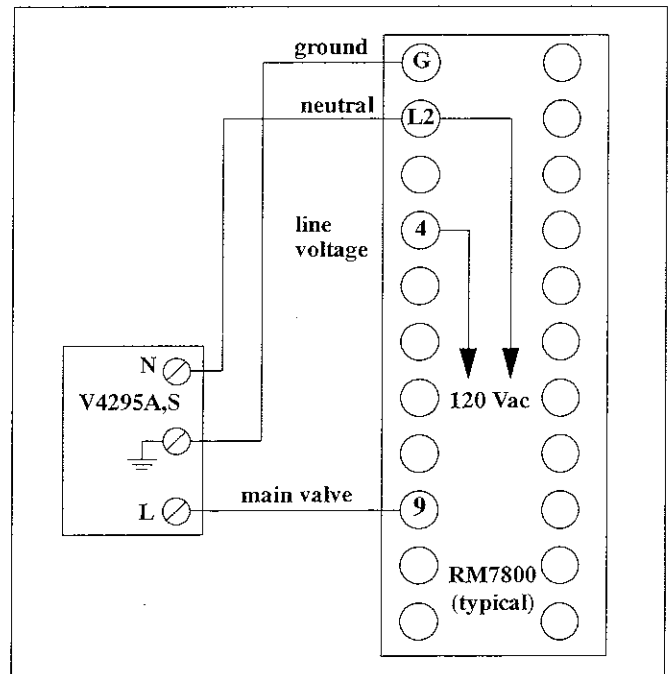
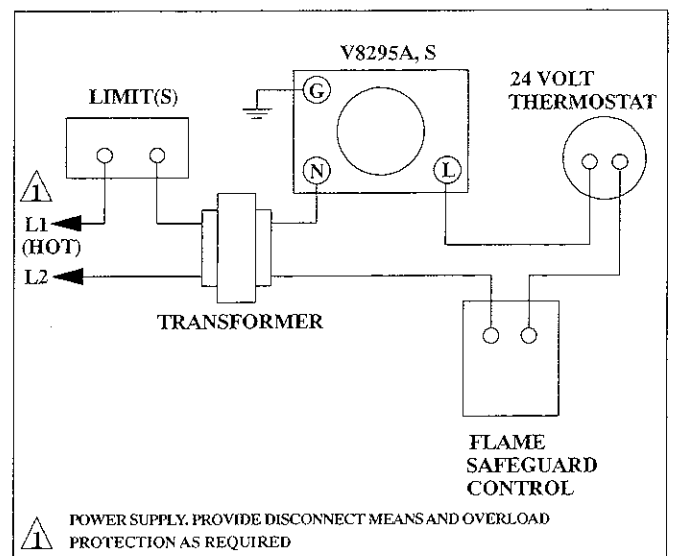

Figure 6. Wiring, V4295A, S
Figure 7. Wiring, V8295A, S
7. Make electrical connections as illustrated in the wiring diagrams; see Figure 6.
6. Refer to Figure 6. for typical V4295A, S field wiring with RM7800 (typical) Primary Safety Control. Refer to Figure 7. for typical V8295A, S field wiring with Primary Safety Control. Follow the burner manufacturer's wiring diagram, when provided. Refer to burner controller (primary safety control) wiring diagram for specific wiring terminal designations.